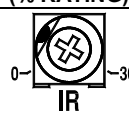

FIGURE 9
5.3 Maximum Speed Trimpot (MAX): The MAX Trimpot sets the maximum speed of the motor when the Main Speed Potentiometer is set fully clockwise. The MAX Trimpot is factory set to 100% of base motor speed. To increase the maximum speed, rotate the MAX Trimpot clockwise. To decrease the maximum speed, rotate the MAX Trimpot counterclockwise. See Figure 9 on page 3.